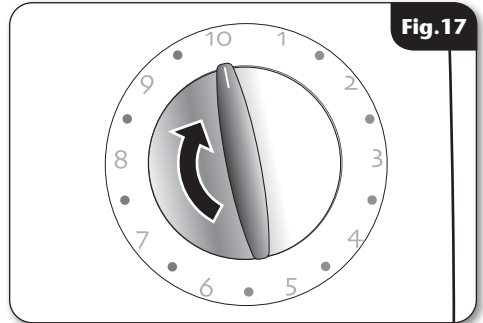

Fig.17
- Select the minimum flow position (**fig.17**).